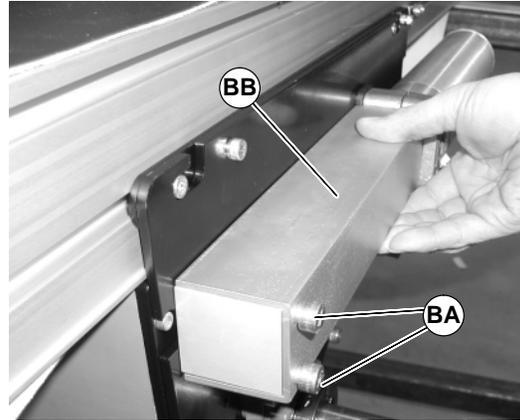

Figure 79
2. Remove screws (BA of Figure 79) and tensioning guards (BB) from both sides of center drive.